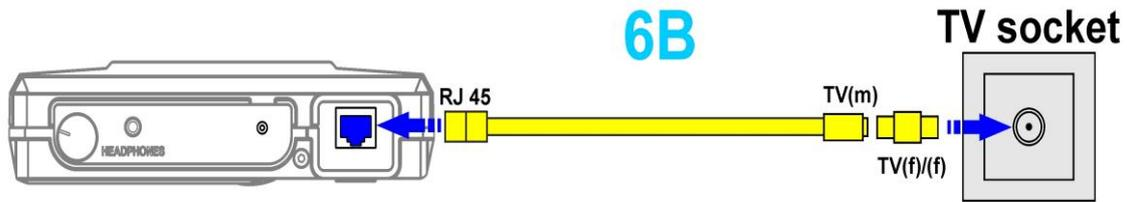

Fig.14
The main unit is connected to the television socket using a patch cord (Fig.1, item 19) and the TV(f)/TV(f) adapter (Fig.1, item 10). The scheme of connection is shown in Fig.14.